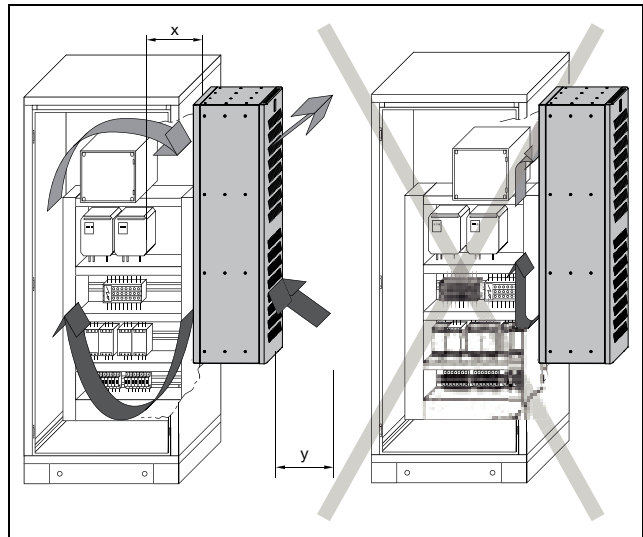

Fig. 6: Air circulation inside the enclosure
- The site for the enclosure, and hence the positioning of the cooling unit, must be carefully selected so as to ensure good ventilation (distance between cooling units at least 200 mm, distance from wall see distance "y" in fig. 6 or tab. 2).
- Measure the distance "x" (fig. 6) from electronic components and other installed equipment inside the enclosure so that the required air circulation is not obstructed.